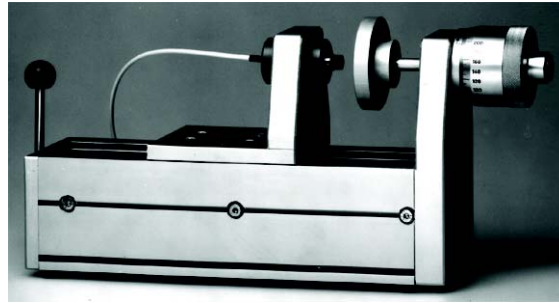

Fig. 5.2: Micrometer calibration device
- 1) Special micrometer calibration device with non-rotating micrometer spindle (Fig. 5.2, available as an accessory), or